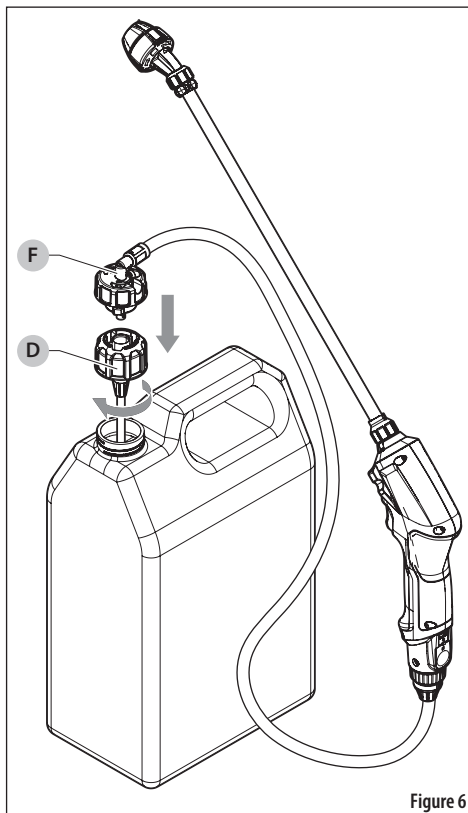

Figure 6
The universal adapter cap (D) attaches the power wand to any 38 mm ready-to-use product labeled for use with this sprayer. See Figure 6.
1. Insert the dip tube into the RTU cap (D) into the bottle of your choice. Turn cap clockwise until secured to the bottle.
2. Align hose barb tabs (F) with the RTU cap (D), push hose barb into RTU cap until it stops.